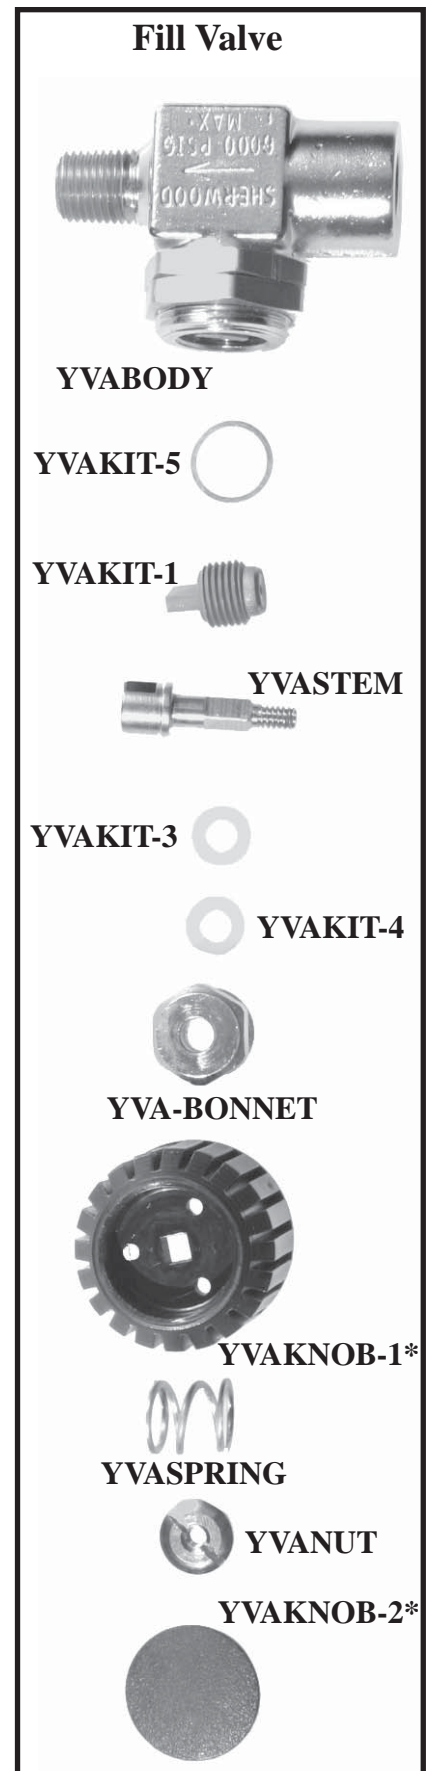

figure 30
15.5.1. With valve open, remove the plastic center cap (YVA-KNOB-2) from the valve knob (YVAKNOB-1). Remove the nut (YVANUT) that holds the knob; using notched screwdriver from your SEA Tool Kit (PN9-47448). See figure 30 for parts breakdown.